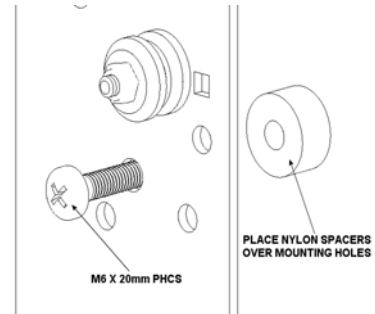

Figure 14. Spacer Installation for Group 4
3. Place the Nylon spacers over the six mounting holes on your Large Flat Panel display (see Figure 14).